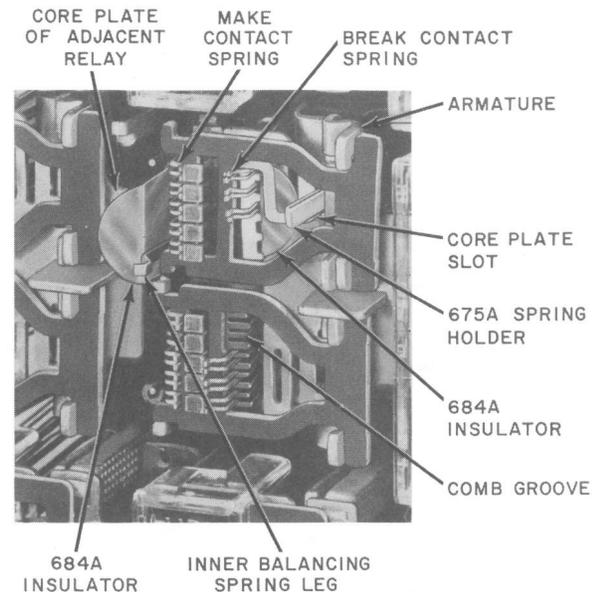

Fig. 8—AM-Type Relay—684A Insulators and 675A Spring Holder Mounted on Upper Half of Relay
of the contact cover spring. Push the insulator inward until the beginning of the offset touches the core plate as shown in Fig. 8. Moving the insulator laterally while inserting it may facilitate positioning it in the relay. Make sure that the insulator is positioned so that it will insulate all the break-contact springs.
3.27 If the relay has make-contact springs and if there is an AF-, AG-, AJ-, AK-, AL-, or AM-type relay mounted at its left as shown in Fig. 8, it is necessary to prevent shorting of the make-contact springs against the core plate of the adjacent relay when these springs are held out of the comb grooves for replacement of the card. To prevent shorting of the make-contact springs, position the 684A insulator adjacent to these springs as follows: Using a KS-6320 orange stick, move the disengaged inner balancing spring leg to the right. Hold the insulator with the offset end to the left and insert the other end between the inner balancing spring leg and the core plate of the other relay. Release the spring leg so that it holds the insulator against the core plate. With the KS-8511 tweezers, position the insulator so that the beginning of the offset is against the core plate as shown in Fig. 8 and so that the insulator will insulate all make-contact springs from the core plate. If the relay is mounted adjacent to other apparatus against which the make-contact springs may be shorted, insert a 684A insulator between the adjacent apparatus and one or both of the disengaged balancing spring legs as necessary.
3.28 The 675A and 675B spring holders are used to hold break-contact springs of the upper and lower halves of the relay, respectively, during replacement of the associated card. Each of the spring holders has five notches to engage the five pairs of break-contact springs with which it may be used. It is important that the pairs of springs are engaged by the proper notches in the holders. Special care is required to engage the pairs of springs in the proper notches if all five positions on the relay are not equipped with these springs. The 675A spring holder is shown mounted on the relay in Fig. 8. To mount either the 675A or 675B spring holder, proceed as covered in 3.29.
3.29 With the right hand, apply the KS-6320 orange stick to the right inner edge of the card and move the card as far to the right as possible. Holding the handle of the spring holder in the left hand, insert the notched section of the holder behind the break contacts. Release the card. Swing the handle of the spring holder to the right and position the holder so that each pair of break-contact springs is engaged by the proper notch and the inner end of the handle is clipped in the core plate slot directly in front of the armature as shown in Fig. 8. Make sure that the notched section of the holder is against the comb, and that the inner end of the handle does not prevent free movement of the armature which is necessary for removal of the card. If necessary, free the armature by carefully moving the handle slightly outward.